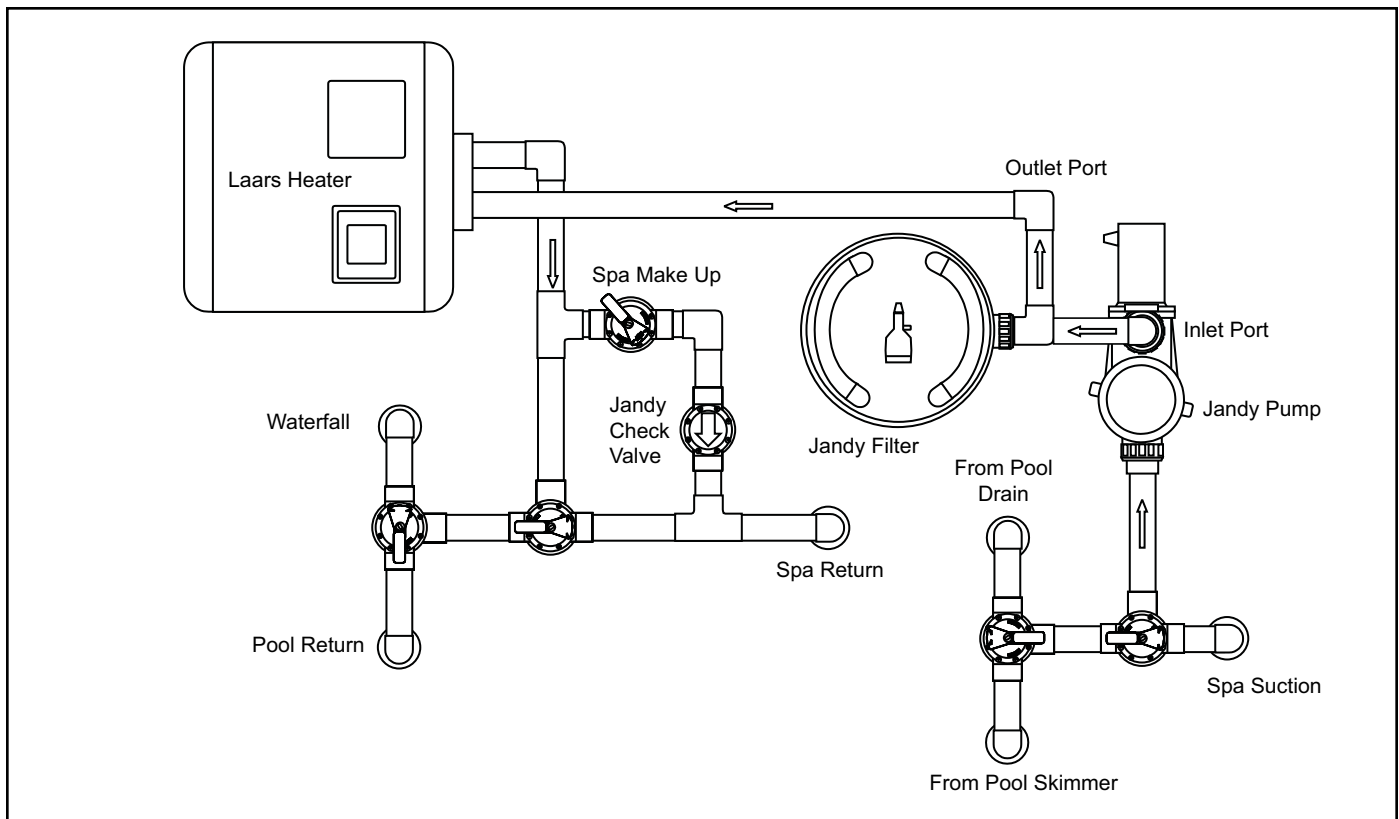

Figure 4. Basic Pool/Spa Combination Plumbing
3. Place the filter on the concrete pad, lined up with the inlet/outlet pipes (see Fig. 4).